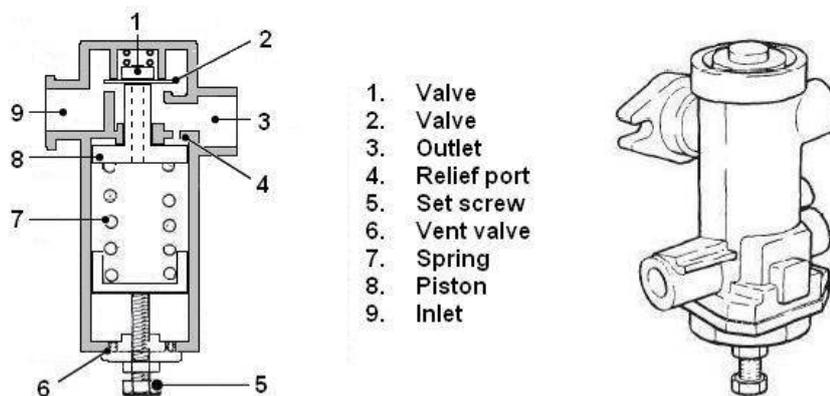

Figure 34 Pressure Limiting Valve (Fording Circuit)
a. **Fording Circuit.** The fording circuit regulator (Figure 34) operates as follows:
- (1) The air fed into the inlet (Item 9) flows through the valve (Item 2) to the outlet (Item 3).
- (2) The piston (Item 8) is held at the top of its stroke by the spring (Item 7).
- (3) When the pressure in the outlet (Item 3) reaches the pressure set by the screw (Item 5) on the spring (Item 7), the force on the piston via the relief port (Item 4) overcomes the force of the spring and the piston slides down, closing the inlet valve (Item 2) and stopping the flow from the inlet.
- (4) If the pressure in the outlet (Item 3) exceeds the correct outlet level, the piston moves further down and opens the exhaust valve (Item 1).
- (5) The excess air is vented to atmosphere through the piston and the vent valve (Item 6).
- (6) If the pressure in the outlet line drops, the piston raises the valve and opens the inlet allowing air to flow again.
- (7) The set pressure limit can be altered by changing the compression of the spring (Item 7) with the set screw (Item 5).